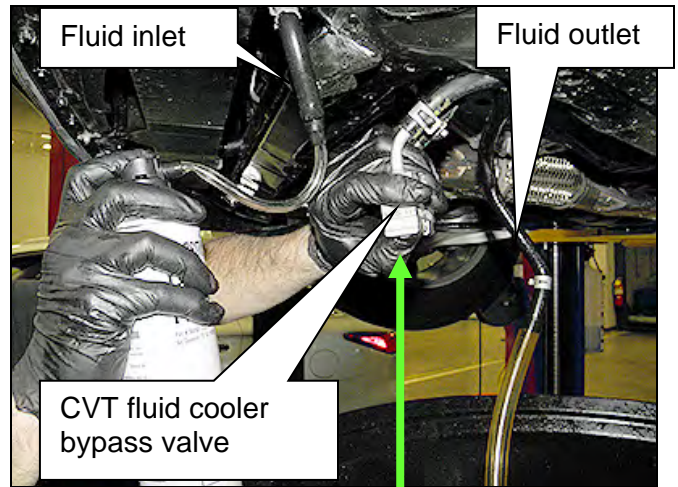

Figure 3E
8. Insert the “extension adapter hose”, from a can of Cooler Cleaner (Nissan P/N 999MP-AM006P), into one or the other of the disconnected CVT fluid cooler hoses (Figure 3E).
- Block the CVT fluid cooler bypass valve (Figure 3E) with thumb.
- Block the CVT fluid cooler bypass valve fluid passage (Figure 3E) with thumb.
14. Now reverse the direction that the hoses are being flushed (Figure 3E) and repeat steps 8 through 12 twice (total of 3 times).